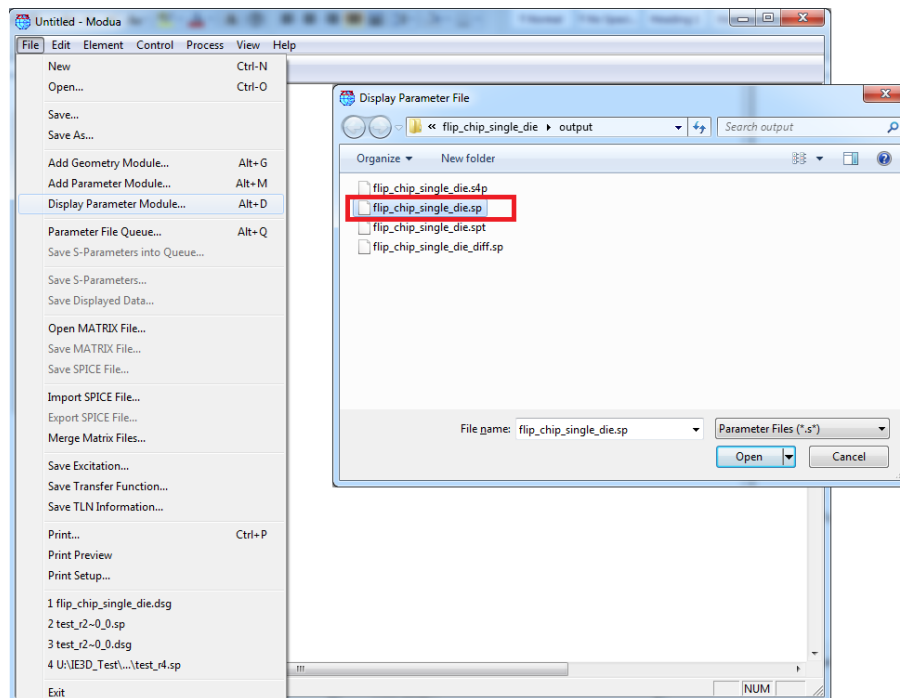

Fig. 29 Modua Window for Displaying S-parameter File.
1. Launch *Modua* from **HyperLynx 3D EM Designer Program Manager** (see Fig 29).
2. Select **MODUA->File->Display Parameter Module** (see Figure 29). Select the file: